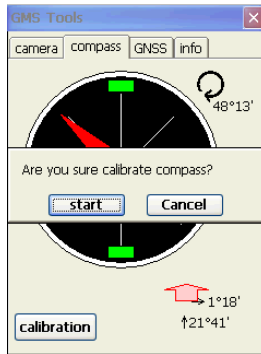

Figure A-10. Begin Compass Calibration
2. Place the unit horizontally on a flat surface and tap **Start** at the confirmation (Figure A-10 on page A-13).